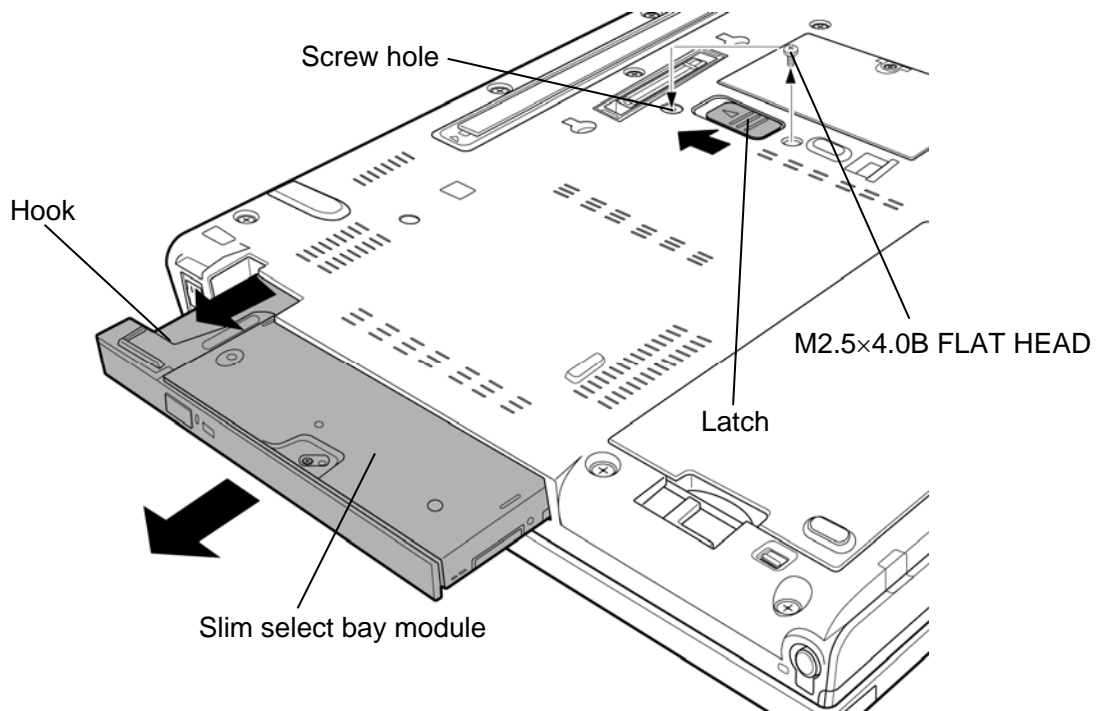

Figure 4-10 Removing the slim select bay module
The following describes the procedure for removing the slim select bay module. (See Figure 4-10 and 4-11.)
3. While sliding the **latch** toward the arrow direction in the Figure 4-10, push the **hook** of the slim select bay module and pull out the **slim select bay module** to disconnect it from the system board.
The following describes the procedure for installing the slim select bay module. (See Figure 4-10 and 4-11.)